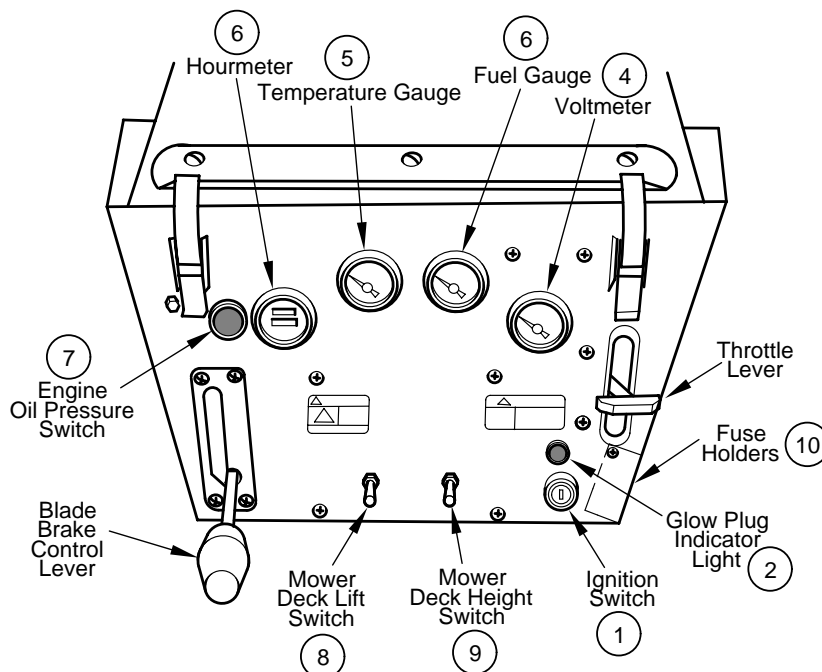

Figure 4-1 Instrument Panel
A. Instrument Panel (See Figure 4-1)
1. **Blade Brake Control Lever (Figure 4-1):** Used to engage and disengage the mower blade brake. Pulling the lever down and to the right engages the brake and stops the blades from rotating. Pushing the lever up and to the left disengages the brake, allowing blades to rotate.
2. **Throttle Lever (Figure 4-1):** Regulates engine speed. Push the lever forward to increase or pull the lever backwards to decrease the engine speed.